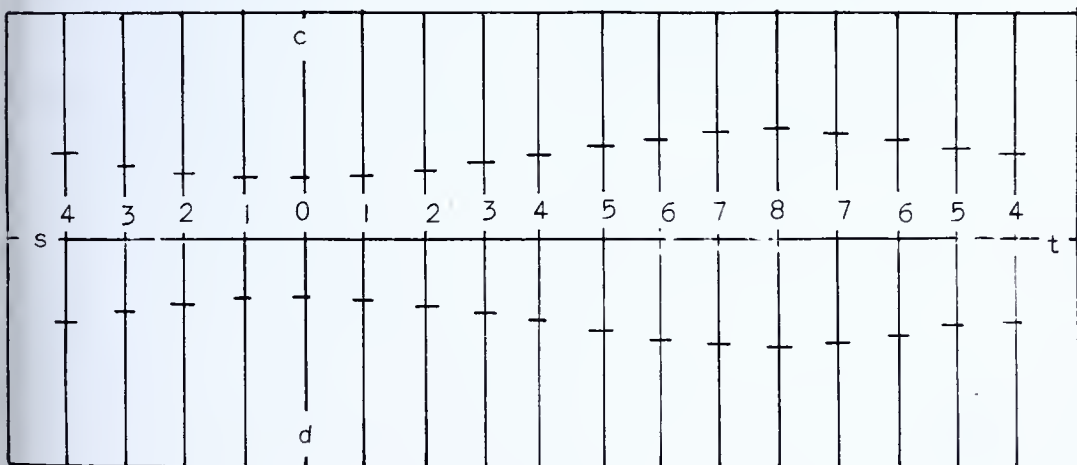
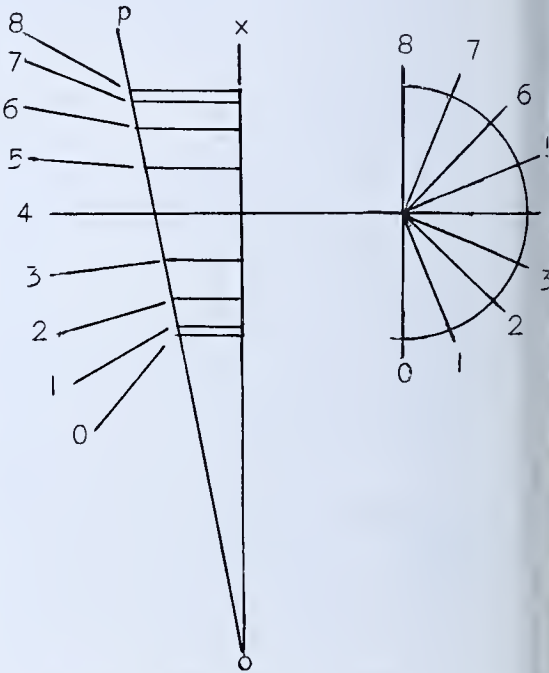

FIG. 313 — *Template Ready for Scribing Curved Lines*
FIG. 314 — Section e in Fig. 309
12. Scribe short arcs on each of the lines scribed at right angles with center line *s-t*, Fig. 313.
- b. Continue numbering the intersections to the right and to the left as shown in Fig. 313.
c. Set the dividers to the correct distance and step off the intersections shown in Fig. 313.
Figure 314 is a duplicate of the right-hand side of Fig. 309. The semi-circle has been set off to the right. The first section of the elbow layout in Fig. 309 has the corresponding projected lines numbered for clarity. The lengths of the projected lines *o* to *8* are to be transferred to the layout in Fig. 313. The first divider setting is the distance from line *o-x* to *o* on the line *o-p*.
d. Transfer this distance to line *c-d* in Fig. 313. With one divider point set on point *o*, scribe short arcs.
e. Set the dividers to distance from *l* to line *o-x* and transfer this distance to lines *l* in Fig. 313.
f. Continue transferring the rest of the distances as shown in Fig. 313.
13. Scribe lines through the intersections in Fig. 313 so that the layout will appear as shown in Fig. 315.
It will be noted that when the elbow sections are rolled and fitted together the welded seams will not match because the intersection *o* on line *c-d* in Fig. 313 was placed at one end of the template instead of in the center. Mismatching the seams makes possible a more uniform fit because the welded joints are not all in a straight line.